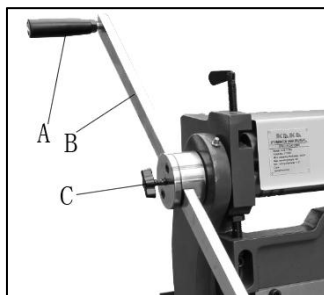

Figure 2
6. Remove one handle (A, Figure 2) from each operating handle assembly, using 6mm hex key.
7. Loosen lock bolt (C, Figure 2).
8. Slide bar (B) into hub and tighten lock bolt (C) to secure.
9. Re-install handle (A).